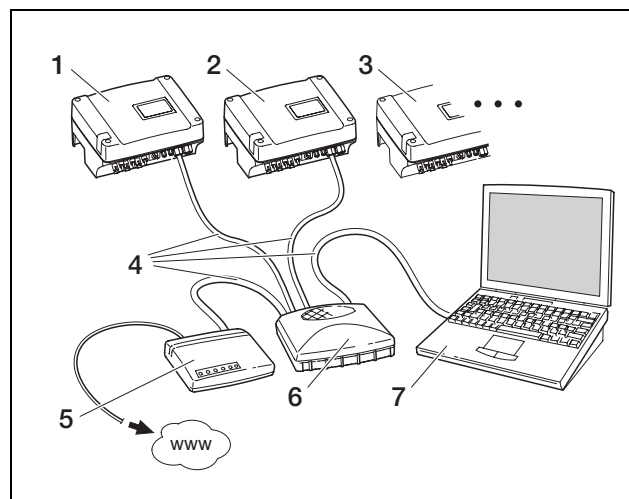

Fig. 74: Communication board I:
- Or you operate the inverter through a DSL connection with router and wish to connect to the inverter remotely via the router (figure 74 or 75).